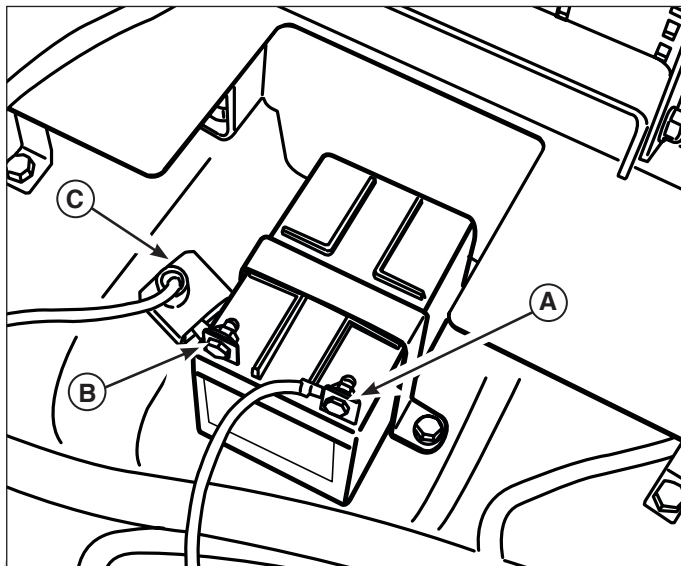

Figure 28. 190CCA Battery
1. Disconnect the cables from the battery, negative cable first (A, Figure 28).
3. Reinstall the battery and reattach the battery cables, positive cable first (B).
5. Be sure to replace the terminal cover (C) over the positive battery terminal.